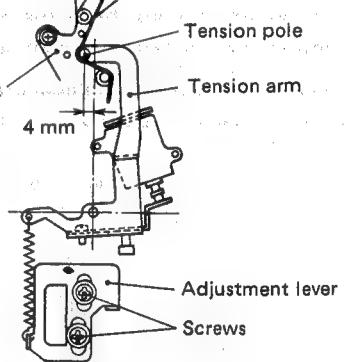

Fig. 2-33 Showing the normal state in Play mode.
- Figure 2-33 shows a normal state of the tension pole in the Play mode after completing the adjustment.